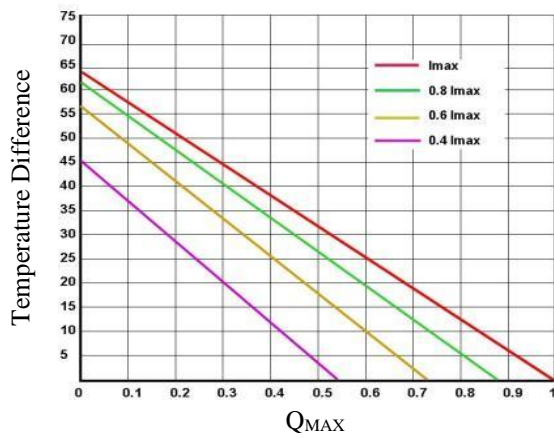

Figure 2. Temperature Difference vs. Q_MAX
- Use the charts provided in Figure 2 to Figure 9, to decide which TEC to use, what is the heat needed to be dumped through the heat sink, what is the heat sink temperature, etc.